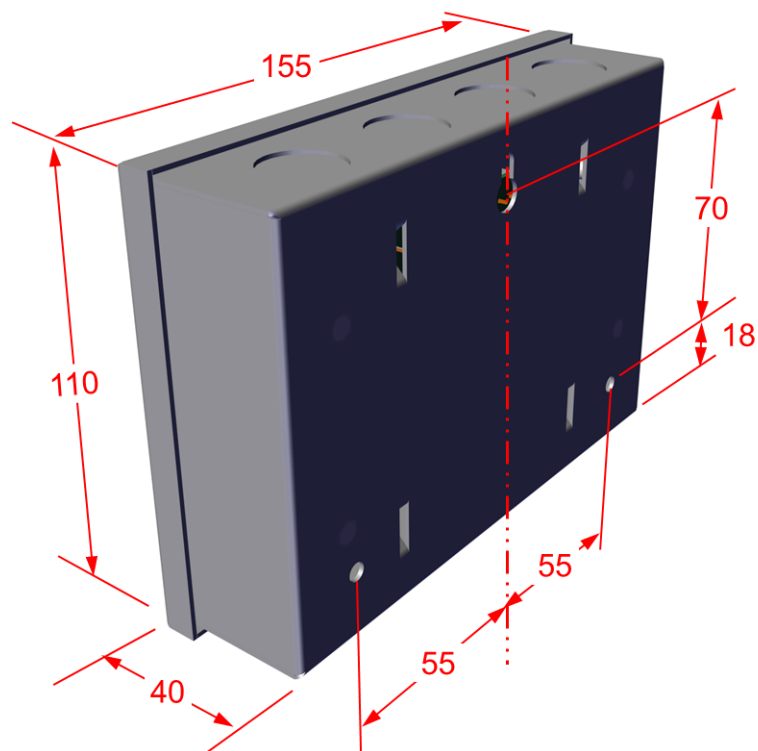

Figure 4 - Enclosure dimensions in mm
4. Mark the positions of the three fixings on your chosen mounting surface. See Figure 4.